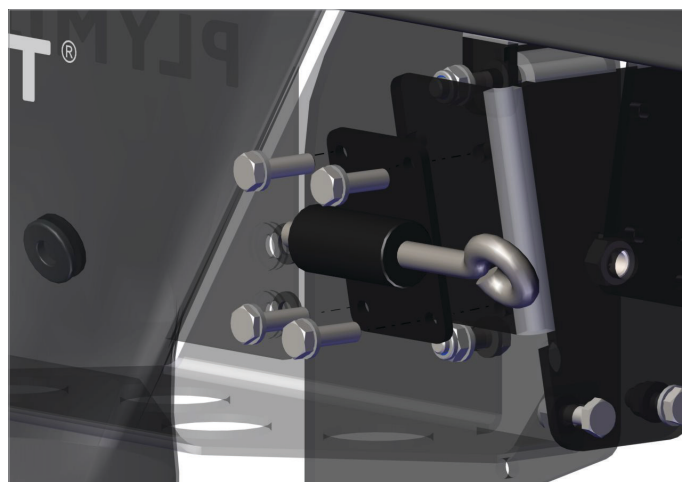

Fig. 4.3.4 Mounting the rope brackets on the crab
- Mount the rope brackets to the crab using 4x M4x20 bolts. (in the case of an existing system with an older crab, make sure to predrill holes in the crab!). Refer to fig. 4.3.4